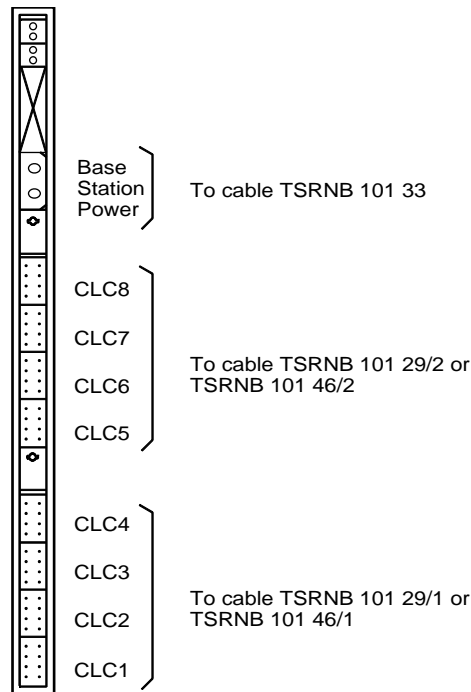

Fig. 21–2 CLU/MDF Cable Connections on the CLU or SLU
1. Connect connectors PW1 on the MCCB to the Base Station power connectors on the furthest left CLU or SLU using the CLU/MCCB Power cable (see Fig. 21–2).